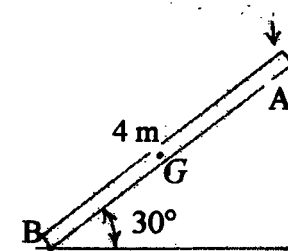

Fig 10
b) At a given instant the 5 kg slender bar has the motion shown in Fig 10. Determine the angular momentum about point G ( $V_A = 2 \text{ m/s}$ )